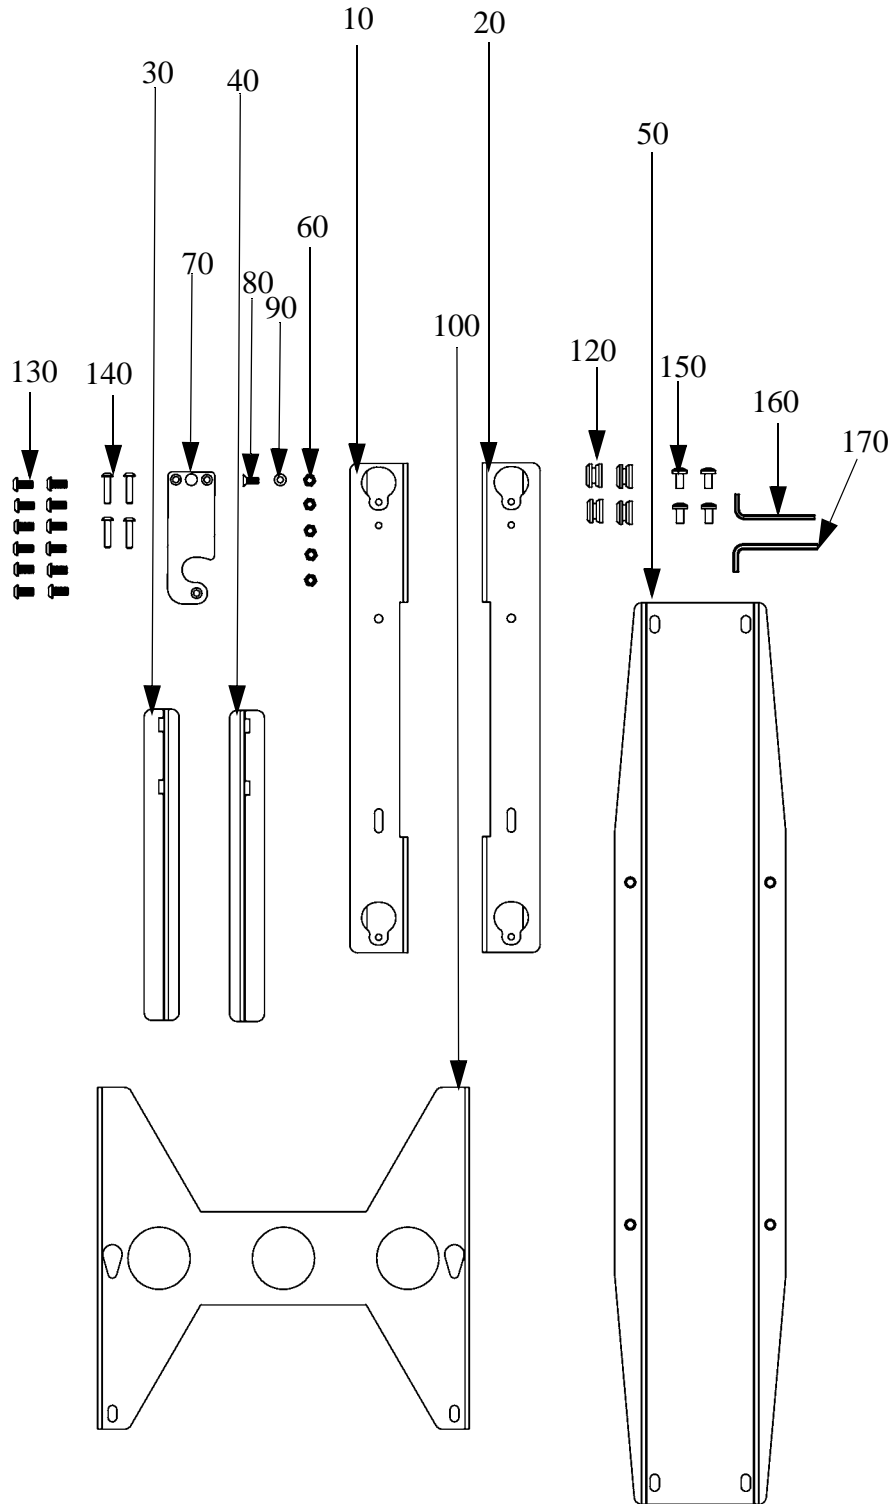
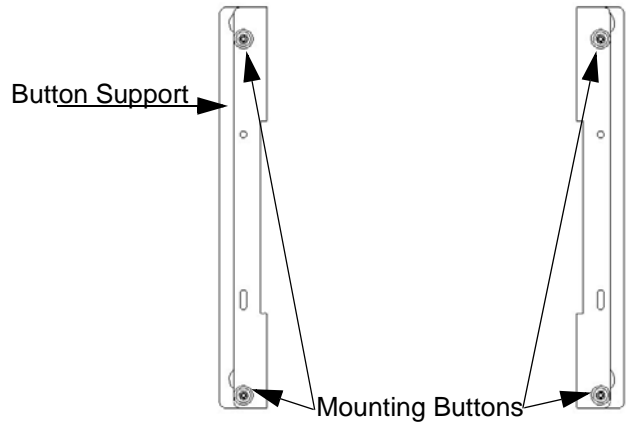
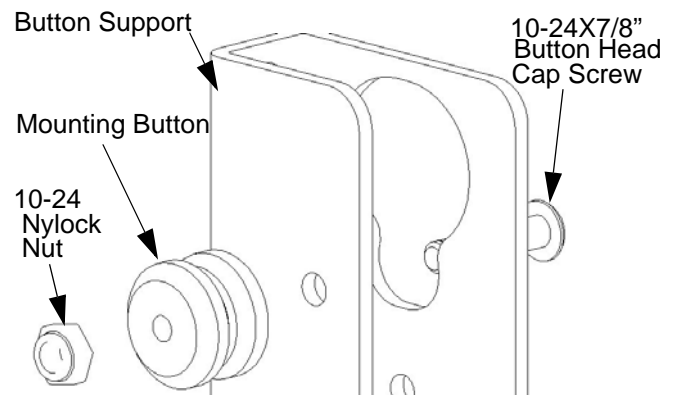

Figure 1. Speaker Mount Center Channel Speaker Adapter
Figure 2. Mounting Button Location
Figure 3. Mounting Button Attachment
2. Carefully inspect the Speaker Mount Assembly (PAC-Y1) components for damage (See Figure 1).
NOTE: Numbers in () refer to parts shown in Figure 1.
1. Attach two mounting buttons (120) to left speaker mount button support (10) and right speaker mount button support (20) using four 10-24X7/8" button head cap screws (140) and four Nylock nuts (170) (see Figure 1, Figure 2, and Figure 3).